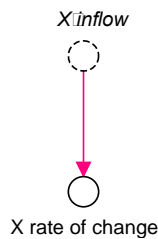

Figure 12: Computation of rate of change
- Determine the rate of change of *X* in the converter *X rate of change* from the ghost of *X inflow*, Figure 12.